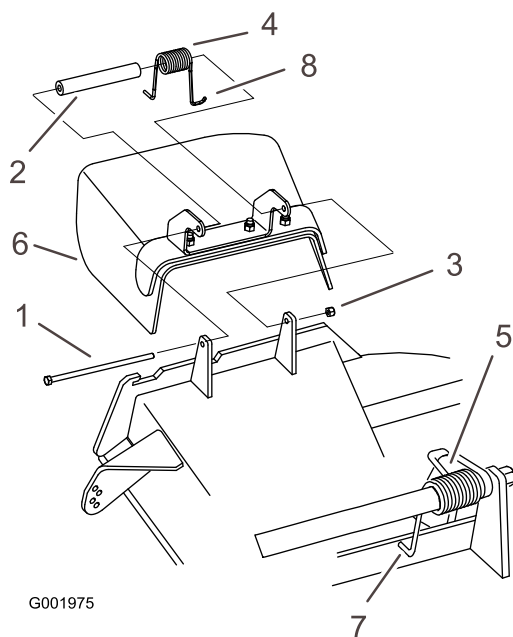

Figure 77
Note: Make sure the **L** end of spring is installed behind deck edge before installing the bolt as shown in Figure 77.
- 3. Install bolt and nut. Place the **J** hook end of spring around grass deflector (Figure 77).
- 1. Remove the locknut, bolt, spring and spacer holding the deflector to the pivot brackets (Figure 77). Remove damaged or worn grass deflector.